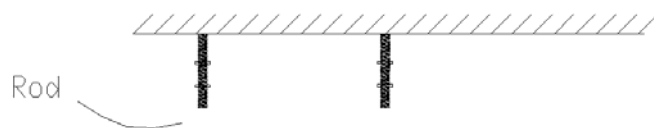
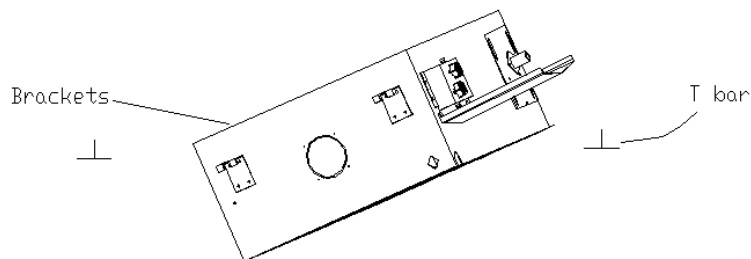

Fig. 10
Fig. 11
9. Incline unit (Fig.10, Fig.11, Fig.13, Fig.14) and insert it into the false ceiling. Insert the rods into the bracket slot. With minimum height (see table) false ceilings, it might be necessary to remove some T brackets of the false ceiling temporarily.